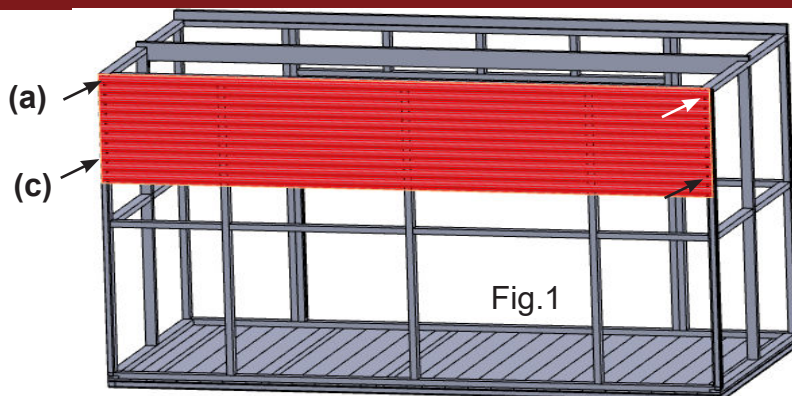

Fig.1
- Next lay all of the floorboards onto the joists. Note, you may need to cut down a floorboard lengthwise to fill the final gap (fig. 1).
- When all of the floorboards are in place, measure the width of the remaining gap and add 3-4mm to ensure a tight fit. Cut the board lengthwise to this measurement (fig. 1).
- Take a 4000mm length rear wall sheet and hold it in position at the top of the back wall. It must be flush with the top of top timber plate and both ends must be flush with the outside of the studs at either end. (Fig. 1)
- Using 1 x 25mm Tek screw, attach one end of the sheet to the frame at the top left hand corner of the sheet (**Fig.1(a)**). Place the screw approx 25mm in from end of the sheet (the corner flashing will cover the screws).
- Repeat at the top of the sheet at the other end making sure that the cladding is flush with the top of the top plate. (**Fig. 1 (b)**)